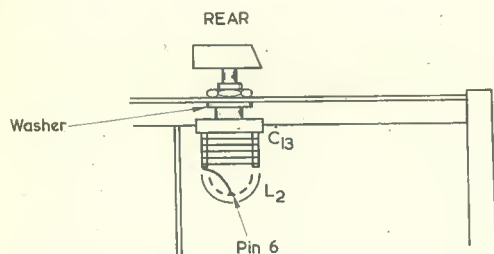

Fig. 5. C_{13} is fitted to the rear Chassis Rail, as shown here
42. Turn now to Fig. 5. Mount C_{13} to the rear Chassis Rail U-slot immediately behind L_2 valveholder, so that the fixed vanes are furthest away from the chassis underside (i.e. closest to the reader). Use a $\frac{3}{8}$ in washer in the same manner as when fitting C_{18} . Fit the pointer knob so that it is in line with the chassis length and pointing to the adjacent Side Plate when the vanes are fully enmeshed.